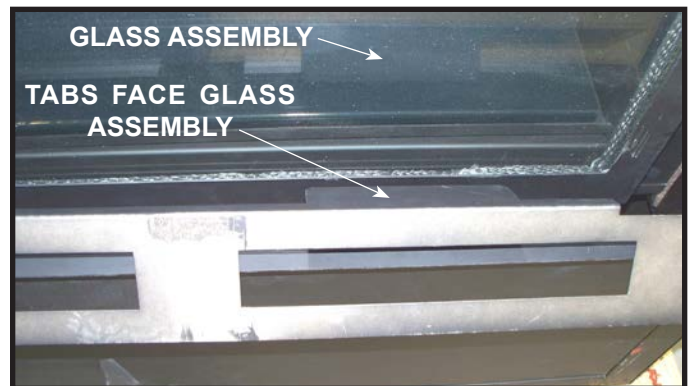

Figure 12. Positioning Porcelain Access Panel.
7. Position trim shelf so tabs are facing the glass assembly. Insert into glass frame. See Figure 12.